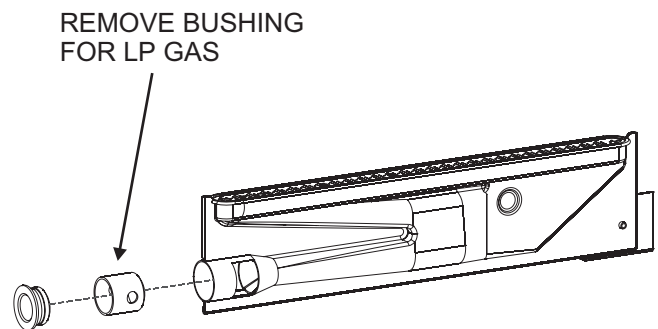
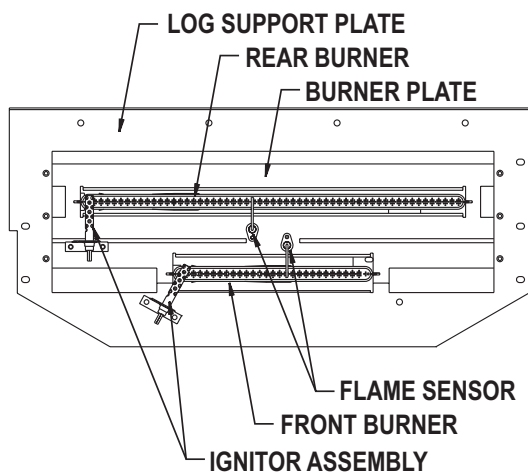

Figure 38
Figure 47
7. Remove log plate from interior of fireplace by removing twelve (12) screws. See Figure 47.
8. Remove front burner (one (1) screw).
10. Remove natural gas front burner bushing from throat (Venturi) of front burner. See Figure 38.
11. Replace front burner with one (1) screw from Step 8.
12. Remove rear burner (one (1) screw).
14. Replace rear burner with one (1) screw from Step 12.
16. Install log plate into fireplace with twelve (12) screws from Step 7.
18. Close front door by securing four (4) door latches.